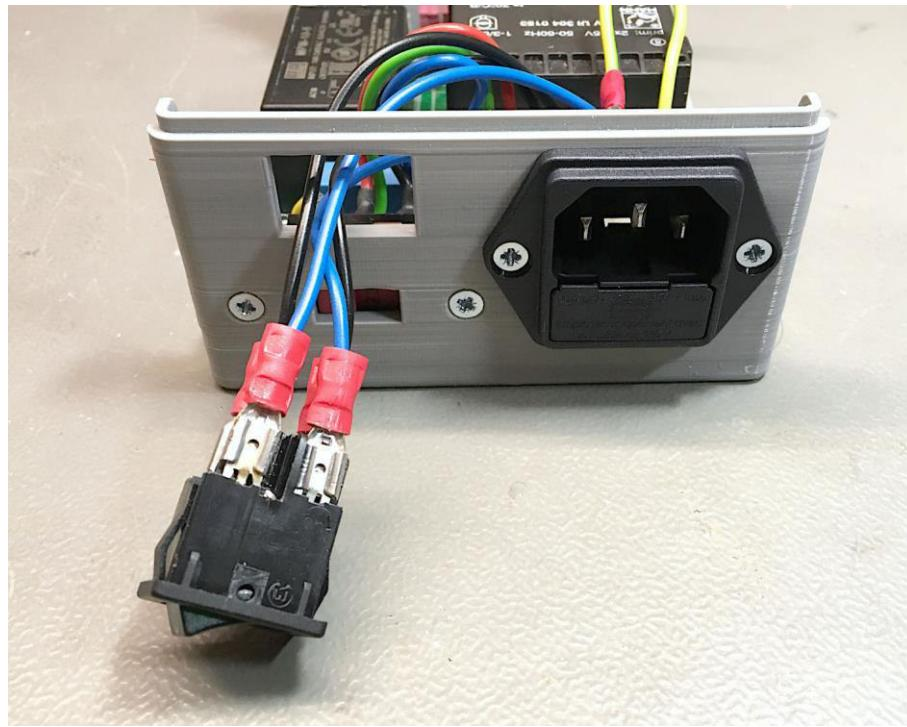
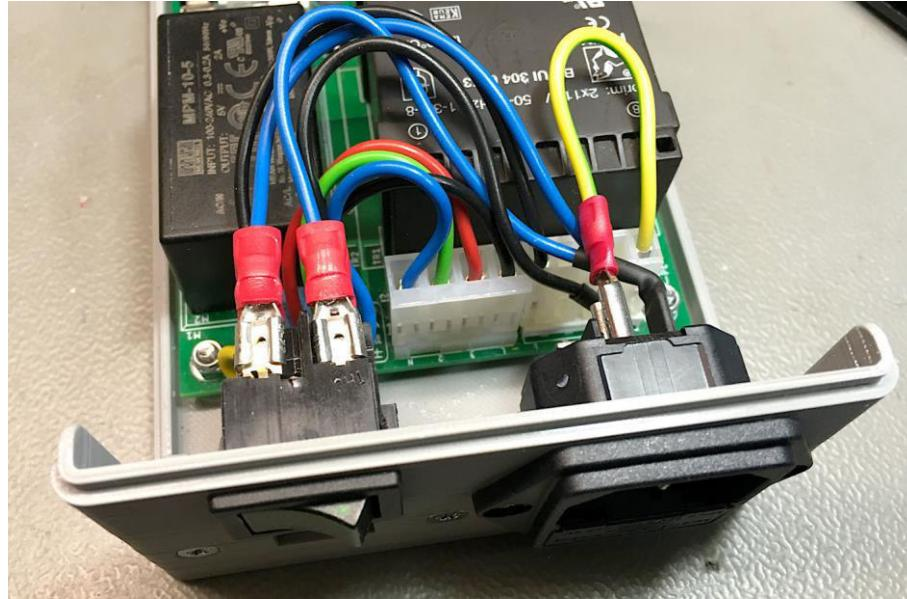

Figure 23: Mains switch wired
Figure 24: Mains switch installed
The mains cables from the PCB (W200) connect to the output side of the power switch. Blue (N) should be adjacent to blue and black (L) to black (Figure 23). Finally, the switch can be pressed into the cutout. It should snap in place and stay firmly (Figure 24).